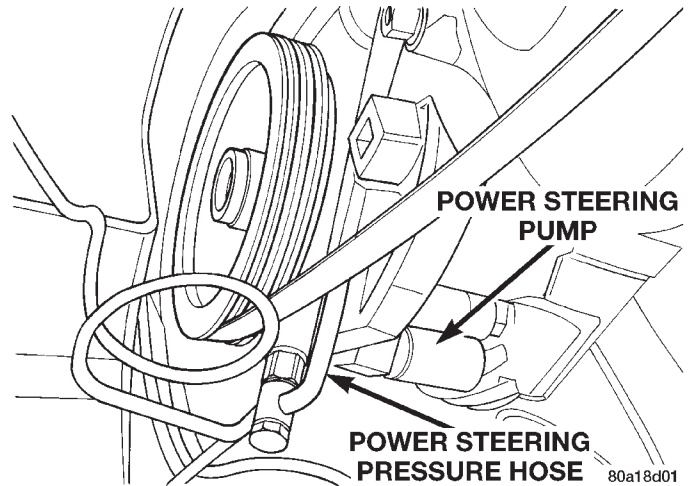

Fig. 36 Power Steering Fluid Pressure Hose Attachment To Pump
(7) Remove the power steering fluid pressure hose from pressure fitting on power steering pump (Fig. 36). Let remaining power steering fluid drain out of the power steering supply hose, power steering pump and power steering fluid pressure hose. **After power steering fluid has drained out of pump and hose, install a cap on the power steering pressure hose and a plug in the power steering pump pressure fitting.**
- (11) Position power steering pressure hose in outlet fitting of power steering pump, so hose is not contacting the pulley of power steering pump drive belt (Fig. 36). Then tighten the Banjo Bolt to a torque of 34 N·m (25 ft. lbs.).